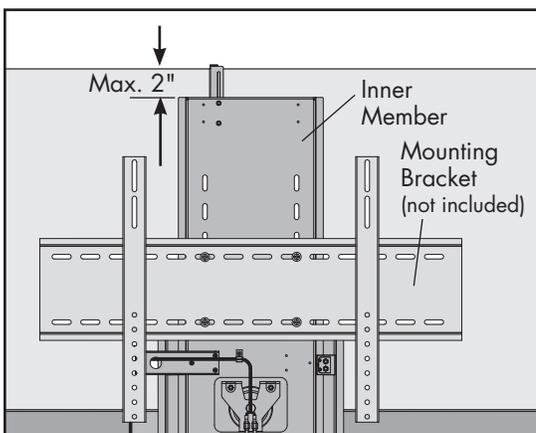

Figure 2.3 (Mounting Bracket not included)
- To mount the television to the bracket, refer to the instruction sheet included with your television. The top of the television should be a maximum of 2 inches above the top of the inner member (Figure 2.3).